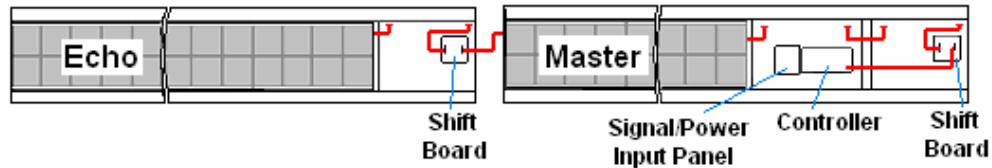

Figure 15: Master to Echo Connection
The signal between the master and echo sections is connected using 20-pin ribbon cables between the shift board and the last module of the previous section (**Figure 15**). Follow these steps to connect display sections.
5. The connection for a master to one echo is shown in **Figure 15**. Repeat steps 1 through 3 to connect and hang each consecutive echo ticker. All other internal wiring between modules has been done by Daktronics.